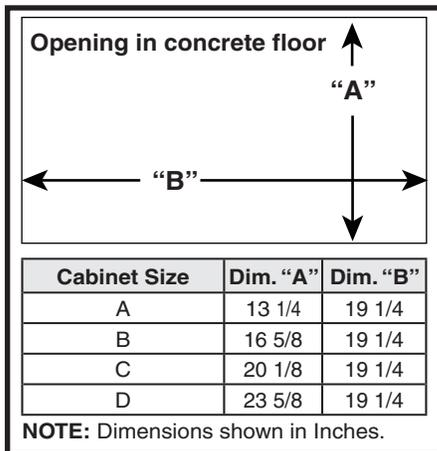

Figure 6. Cutout Dimensions
1. Create an opening in the floor according to the dimensions in Figure 6.